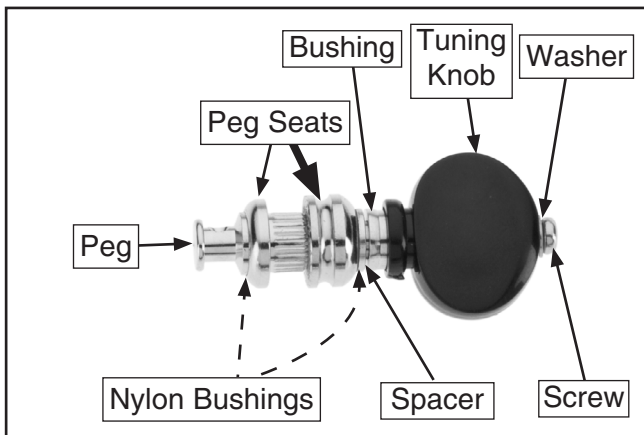

Figure 36. Tuning peg components.
Each tuning peg consists of the components shown in **Figure 36**.
3. Attach the remaining components to the peg in the order shown in **Figure 36**.